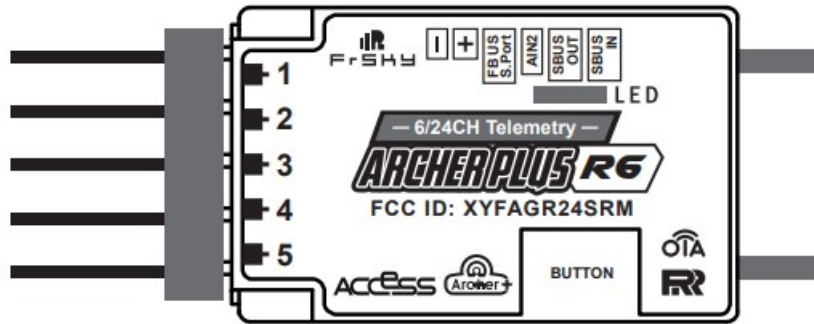

Figure 63: Archer Plus R6
- ii. On the Archer Plus R6, hold down the receiver button while powering up the Archer Plus R6. (Figure 63)